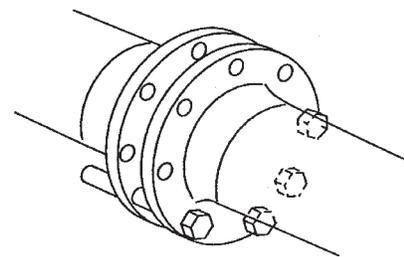

Figure 9
- A. Loosely install the lower flange bolts to form a cradle between the flanges. (See Figure 9.)